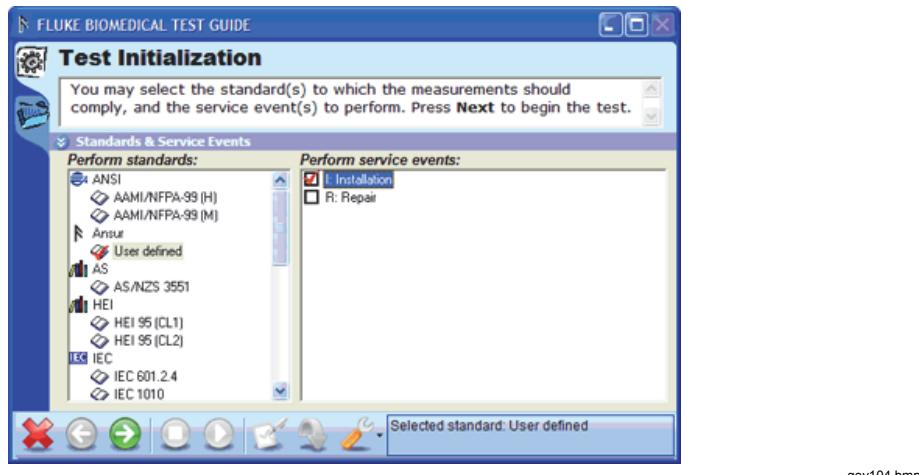

Figure 3-68. Selecting Service Events on the Test Initialization Window
14. Perform the template by clicking **Test | Start Test** or click the **Start Test** button (⌚) on the main toolbar. Figure 3-68 shows the Test Initialization window displayed at this point.